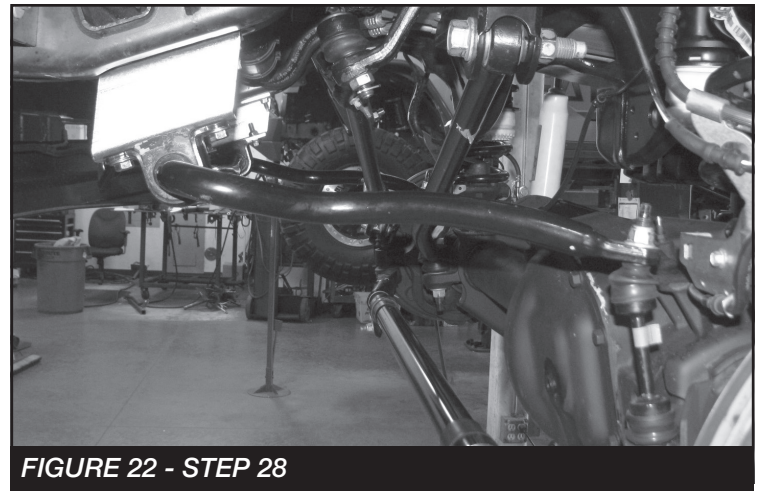

FIGURE 22 - STEP 28
28. Install FT3400-112P (Driver) & FT3400-112D (Passenger) Sway bar drop brackets using the factory hardware. Reinstall the front sway bar to the end links using the supplied 7/16" hardware torque all hardware to 83 ft-lbs. Reconnect the sway bar to the endlinks. Torque to 52 ft-lbs **SEE FIGURE 22**